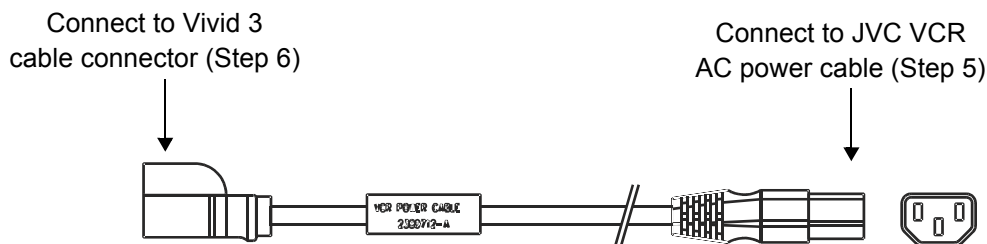
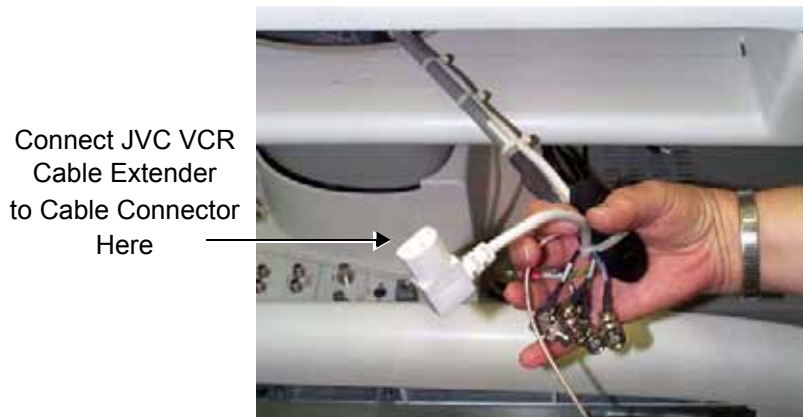

Figure 8-137 JVC VCR Cable Extender
Figure 8-138 Cable Connector on Vivid™ 3
- 5.) Connect one end of the cable extender supplied with the VCR (see Figure 8-137 below) to the AC power cable (already attached to the VCR).
- 6.) Connect the other end of the cable extender to the cable connector on the Vivid™ 3, as shown in Figure 8-138 below (refer also to Figure 8-137, above).
- 6.) Disconnect the JVC VCR AC power cable extender from the power cable connector on the Vivid™ 3 (refer to Figure 8-138 on page 8-146).